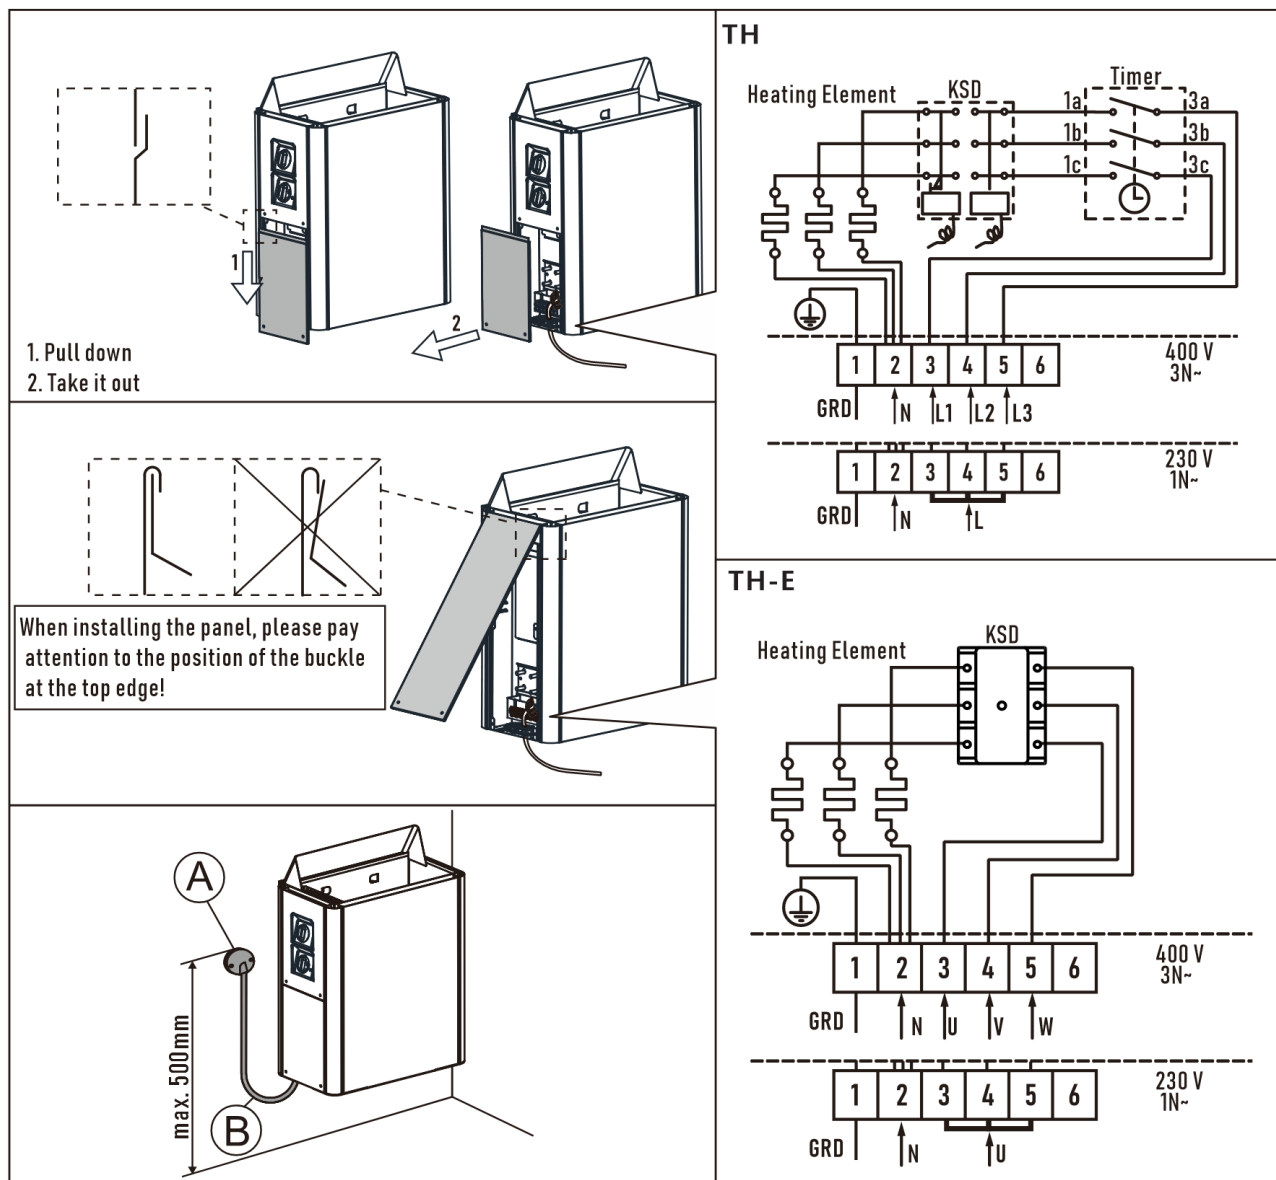
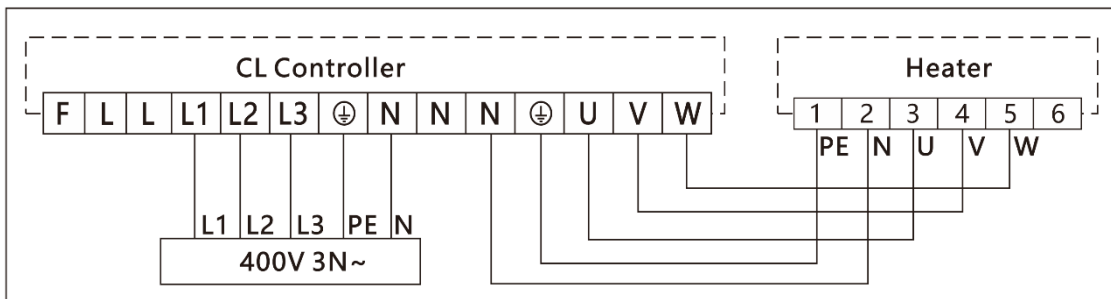

Figure 10. Power Connection of the Heater
Figure 11. Connection of TH-E Sauna Heaters to a 400V 3N~ Network
- The heater is connected to the junction box (Figure 10, A) on the sauna wall with a flexible cable. The junction box must be splash-proof and located no more than 500 mm from the floor.
- As the cable (Figure 10, B), use the rubber cable of type HO7RN-F or similar.
- The connection of TH, TH-E heaters to 400V 3N~ and 230V 1N~ networks is shown in Figure 10, with more detailed connection diagrams provided in Figures 11 - 14.